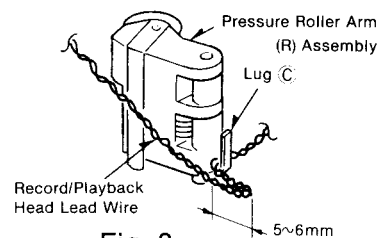

Fig. 2
3. Trace the record/playback head lead-wire as follows (Refer to Fig. 2.):
- Pass the head lead-wire through the lug (C) on the pressure roller arm (R) assembly.
- Slacken the wire between the head assembly and the lug (C) (by making a 5 or 6mm turnup near the lug (C)).
1. Turn the tape guide height adjustment screw and the erase head height adjustment screw on the rotary head assembly counter-clockwise until the upper end face of the erase head and of the tape guide are aligned on the same plane as the top face of their respective guide pins. (Refer to Figs. 2, 3 and 4).